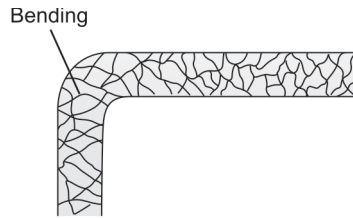

Fig. 1.15: Energy losses due to bending of pipe
- c. Losses due to bending in pipe:** Change in direction causes fluid separation from the inner wall and a larger angle causes a greater head loss (Fig. 1.15). The radius of the bend and diameter of the pipe also contribute to the losses.